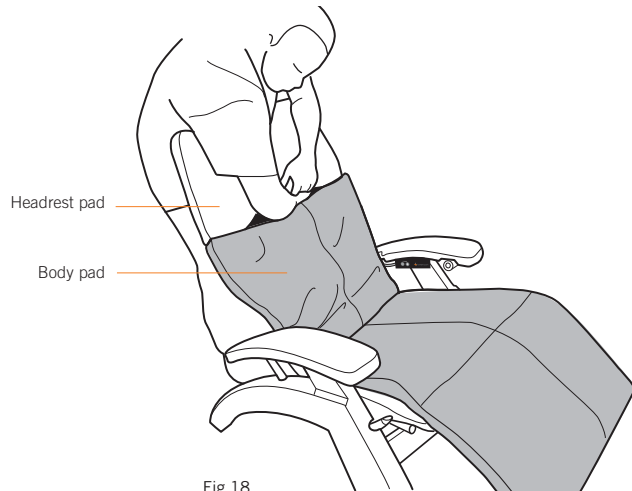

Fig.18
6. Tuck the flap on the top of the body pad up into the headrest pad and smooth the lower part of the headrest pad firmly flat to secure the hook and loop fasteners inside (Fig.18).